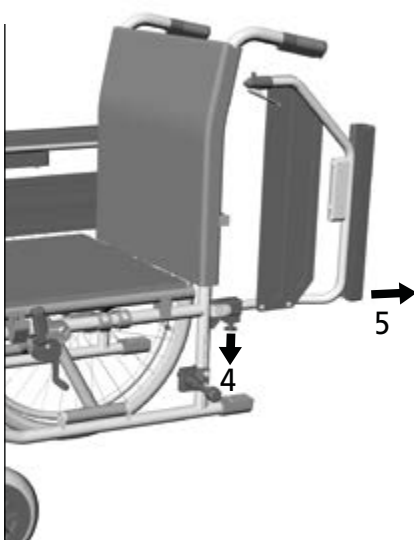

Fig.7
2. Pull the rear pin on the clamping device downwards (4, Fig. 7).
3. Grip the side part by the armrest and pull it back out of the holder (5, Fig 7).